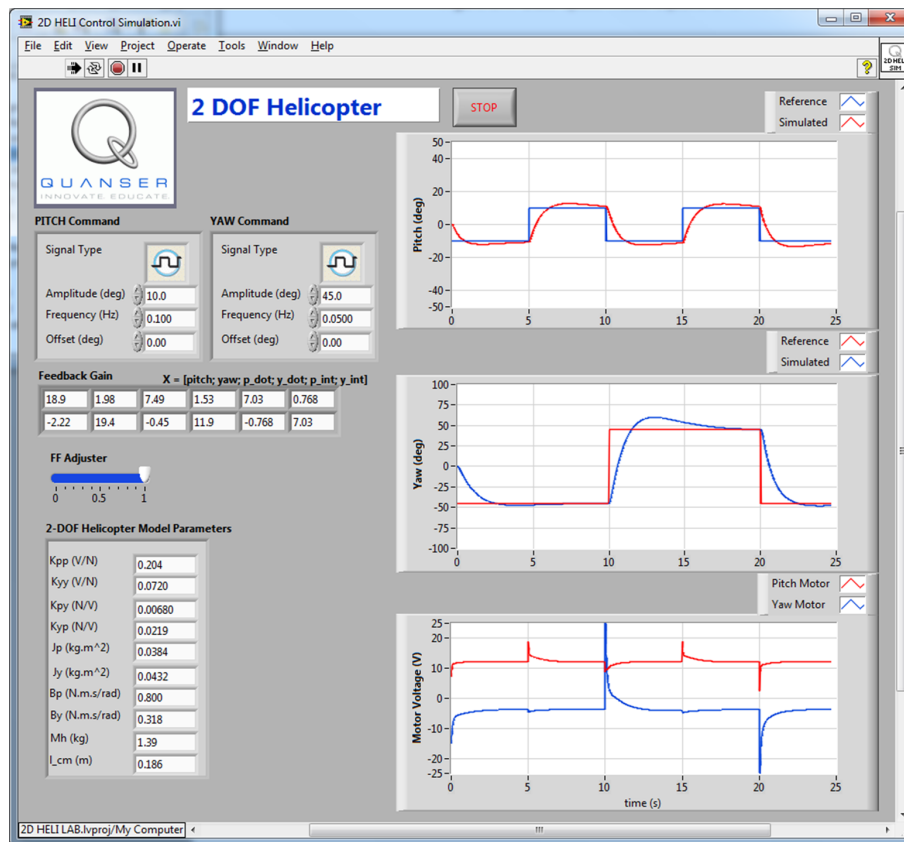

Figure 5.10: Simulation response for the 2 DOF Helicopter
5. Observe the closed-loop simulation response as shown in Figure 5.10.